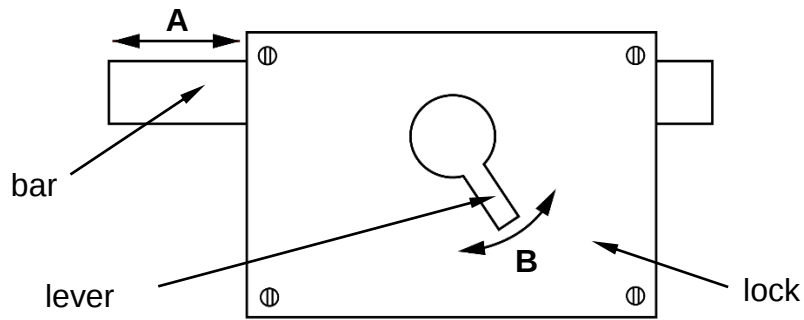

Fig. 4
- 7 Figure 4 shows a drawing of a toilet lock used to secure a toilet door in position.